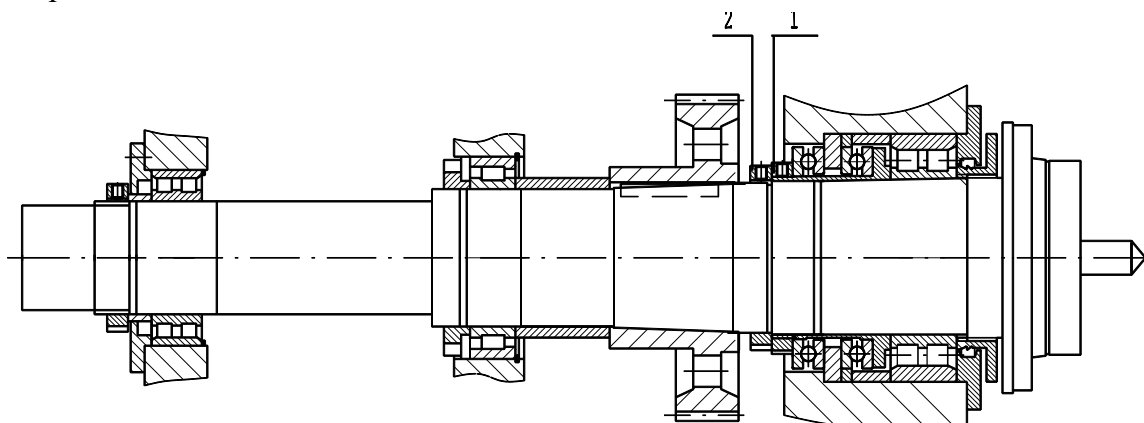

Fig. 12 Structure of rolling spindle
The spindle structure (see Fig. 12) is three-point structure and the spindle employs rolling bearing and the spindle nose is short taper flange structure. Excessive clearance in spindle bearings directly effects turning accuracy. The rotating accuracy of the spindle includes two kinds, i.e. radial run-out and axial slip of it. Radial run-out of the spindle is guaranteed by two double row roller bearings at the front of spindle while axial slip by single row ball thrust bearing at the rear of spindle. Check method is according to items 6 and 4 in the TEST CERTIFICATE. If the readings can not meet the requirements, it is necessary to adjust radial clearance of two double row roller bearings on the rear point by nut 2, and adjust the axial clearance of centripetal force ball bearing.